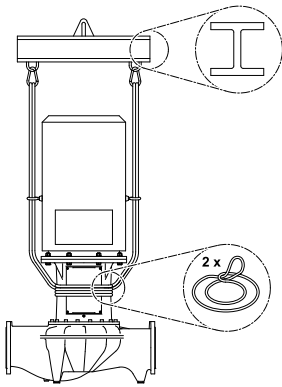

Fig. 32: Fitting load slings
- To lift with the crane, the pump must be supported by suitable belts as shown in (Fig. 32/33). Place loops around the pump which tighten from the pump's own weight.